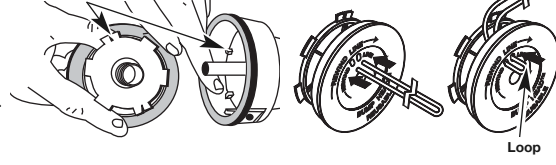

Fig. 13
- Remove the inner reel from the outer spool (Fig. 13).
- Remove spring from the inner reel (Fig. 13).
- Remove the old inner reel from the outer spool (Fig. 13).
- Remove the spring from the old inner reel (Fig. 13).